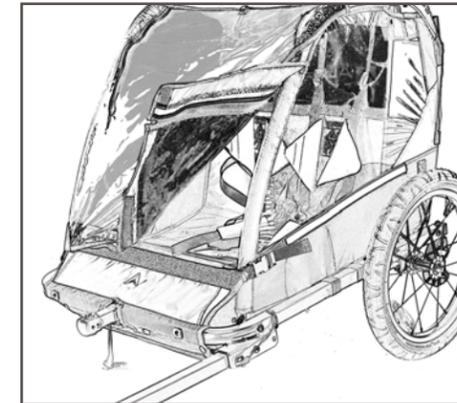

Figure 18
1. Position the Four-Season Cover over the trailer where roll-up window is facing towards the front side of the trailer (Fig. 18).